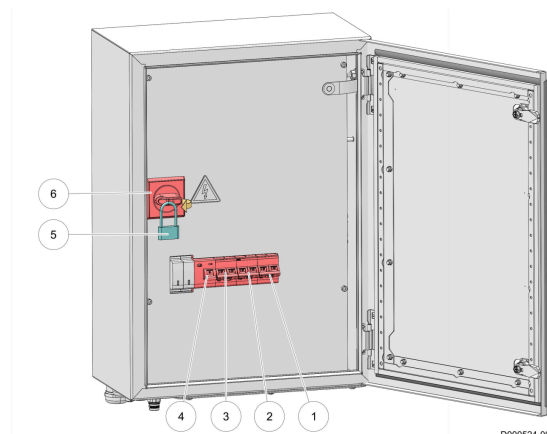

Figure 14. Main power supply switch RU
4. Remove the padlock (5) from the main power supply switch (6) of the robot unit (see figure 14 on page 3-10).
5. Set the main power supply switch (6) in the ON position.
6. Set the automatic circuit breakers in the ON position, one by one from left (4) to right (1) (only with a Pura).